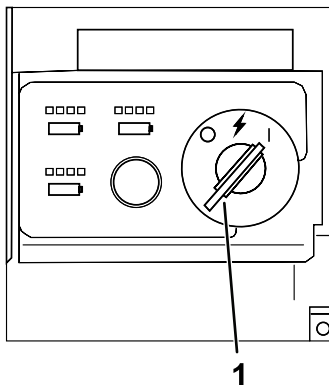

Figure 18
3. Turn the key to the RUN position to turn on the machine (Figure 18).